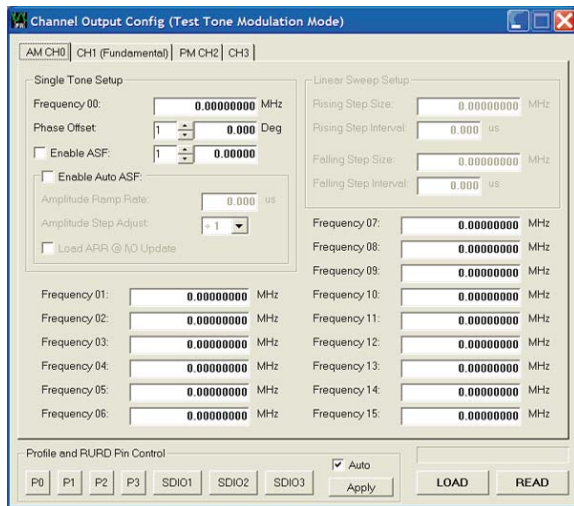

Figure 25.
4. For AM, select the **AM CH0** tab (see Figure 25). Set the frequency offset in MHz in the **Frequency 00** box. This frequency is set to an offset of the fundamental. For example, if 1 MHz is entered, the modulation is offset 1 MHz from the fundamental.